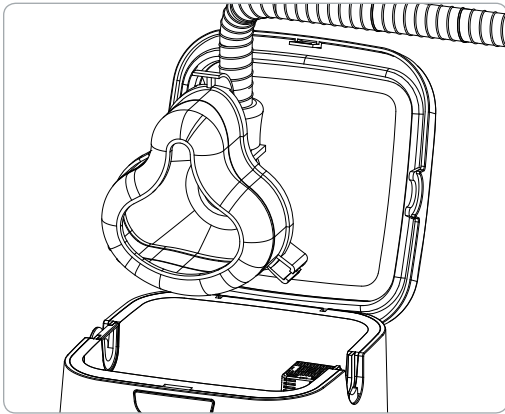

Figure 7. Put mask into Disinfecting Chamber
4. Insert your mask into the Disinfecting Chamber allowing its attached hose to rest in the open hose slot, opposite the Removable Hose Slot Plug (figure 7).